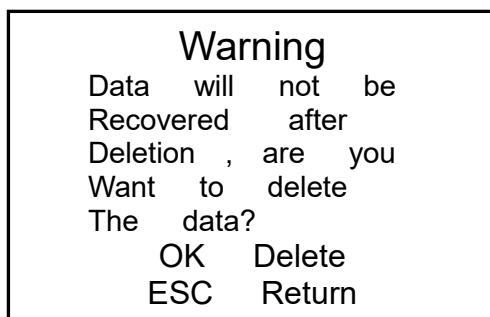

Figure 3.10 Data Clearing
2. Look carefully at the on-screen prompts (shown in Figure 3.10) and follow the prompts.